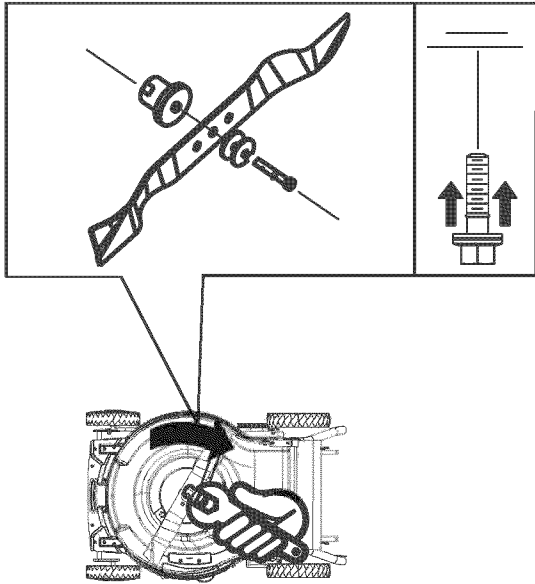

Figure 16
5. Install the new blade (turn the blade bolt clockwise) and all mounting hardware (Figure 16).